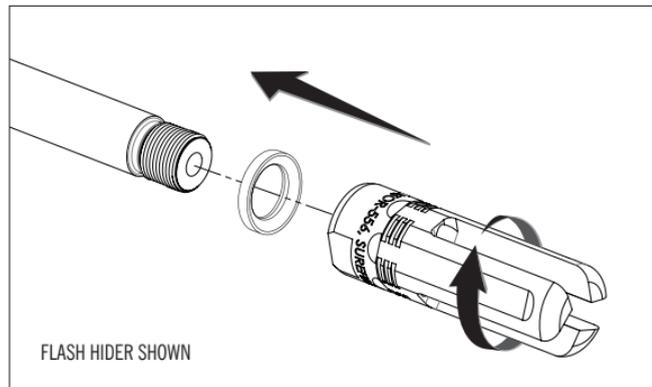

FIGURE 1
2. Install the crush washer onto the muzzle of the host weapon with the small cupped surface against the muzzle and the flared end facing outward (Fig. 1).